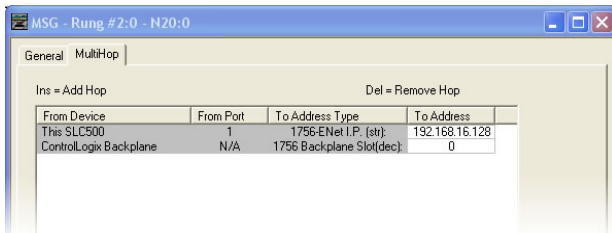

Figure 71: MSG Configuration, "MultiHop" Tab
- e) Under the “MultiHop” tab settings, set the “To Address” in the first row to the inverter’s IP address, and the “To Address” in the second row to 0. Refer to Figure 71.